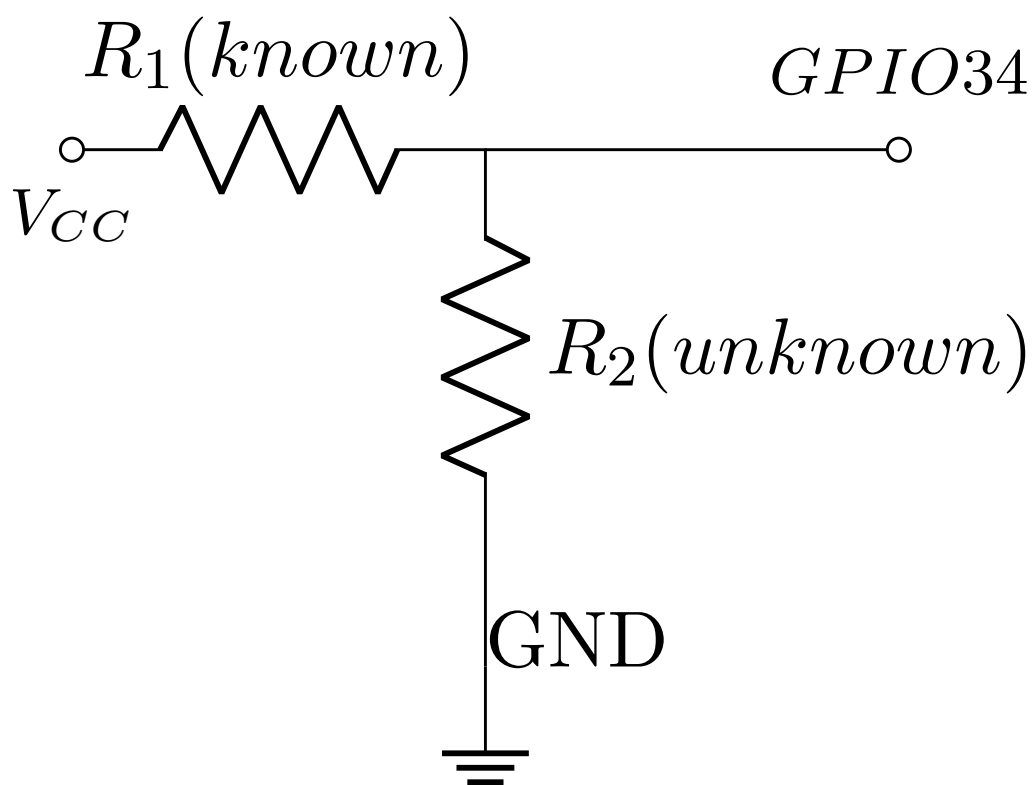

Figure 1.1.3.1: Voltage Divider
1.1.4. The Ohm meter in this manual works on the principle of the voltage divider shown in Fig. 1.1.3.1.